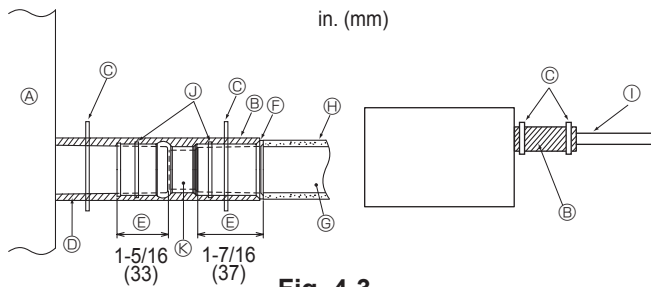

Fig. 4-3
1. Connect the drain socket (supplied with the unit) to the drain port. (Fig. 4-3)
[Fig. 4-3]